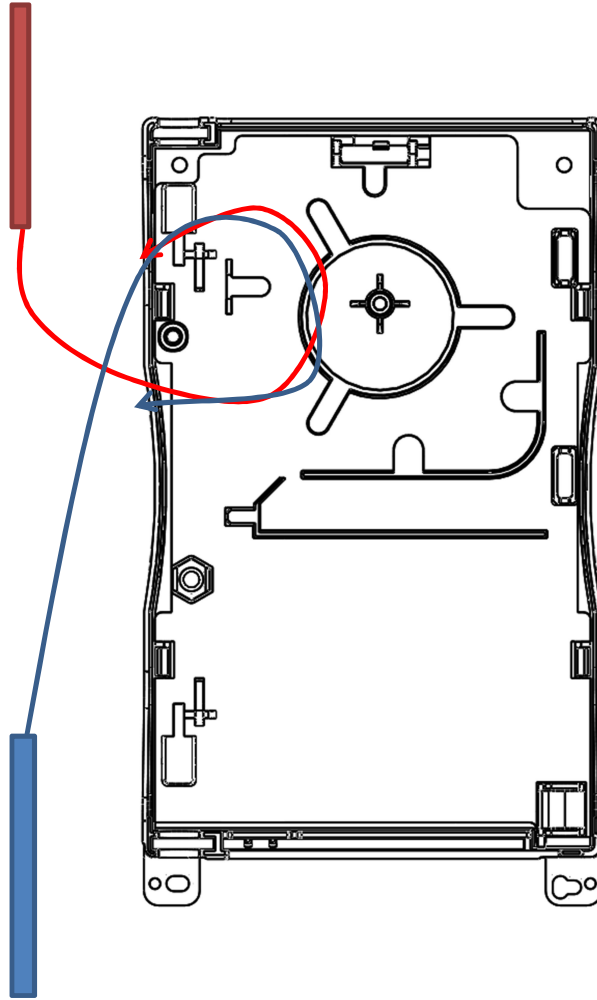

Fig.18 – Routing spare fibers (cables)
4.1.2. Route and save unused fiber units. Figure 18 shows two cables entering the enclosure and the fiber routing. One cable enters the enclosure from the top and the other from the bottom.